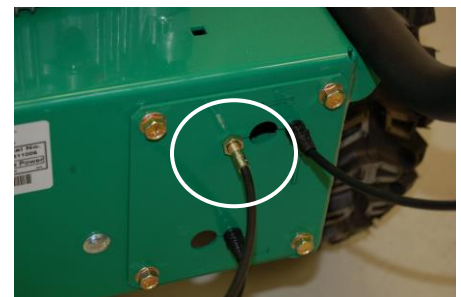

Fig. 8
3. Adjust cable tension by tightening or loosening cable adjustment nut on rear of engine base (see Fig. 8). Be sure to leave enough slack in cable to allow blade brake to engage.